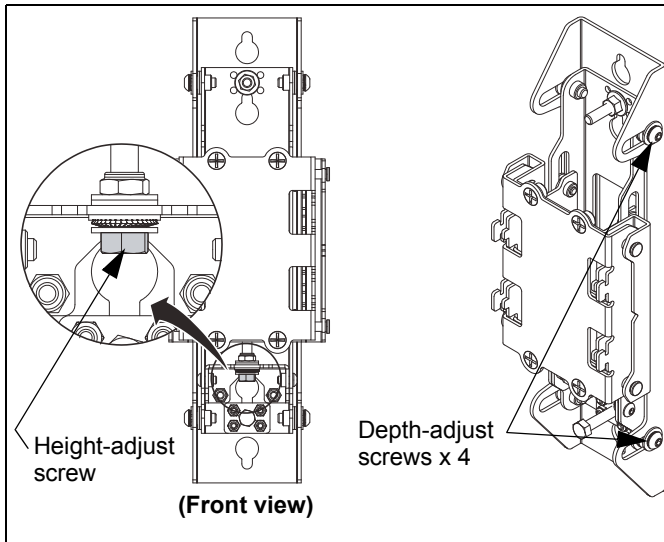

Figure 18
1. Adjust the height of the mounting rail via the wall upright, as necessary, to level the mounting rail on the wall. (See Figure 18)